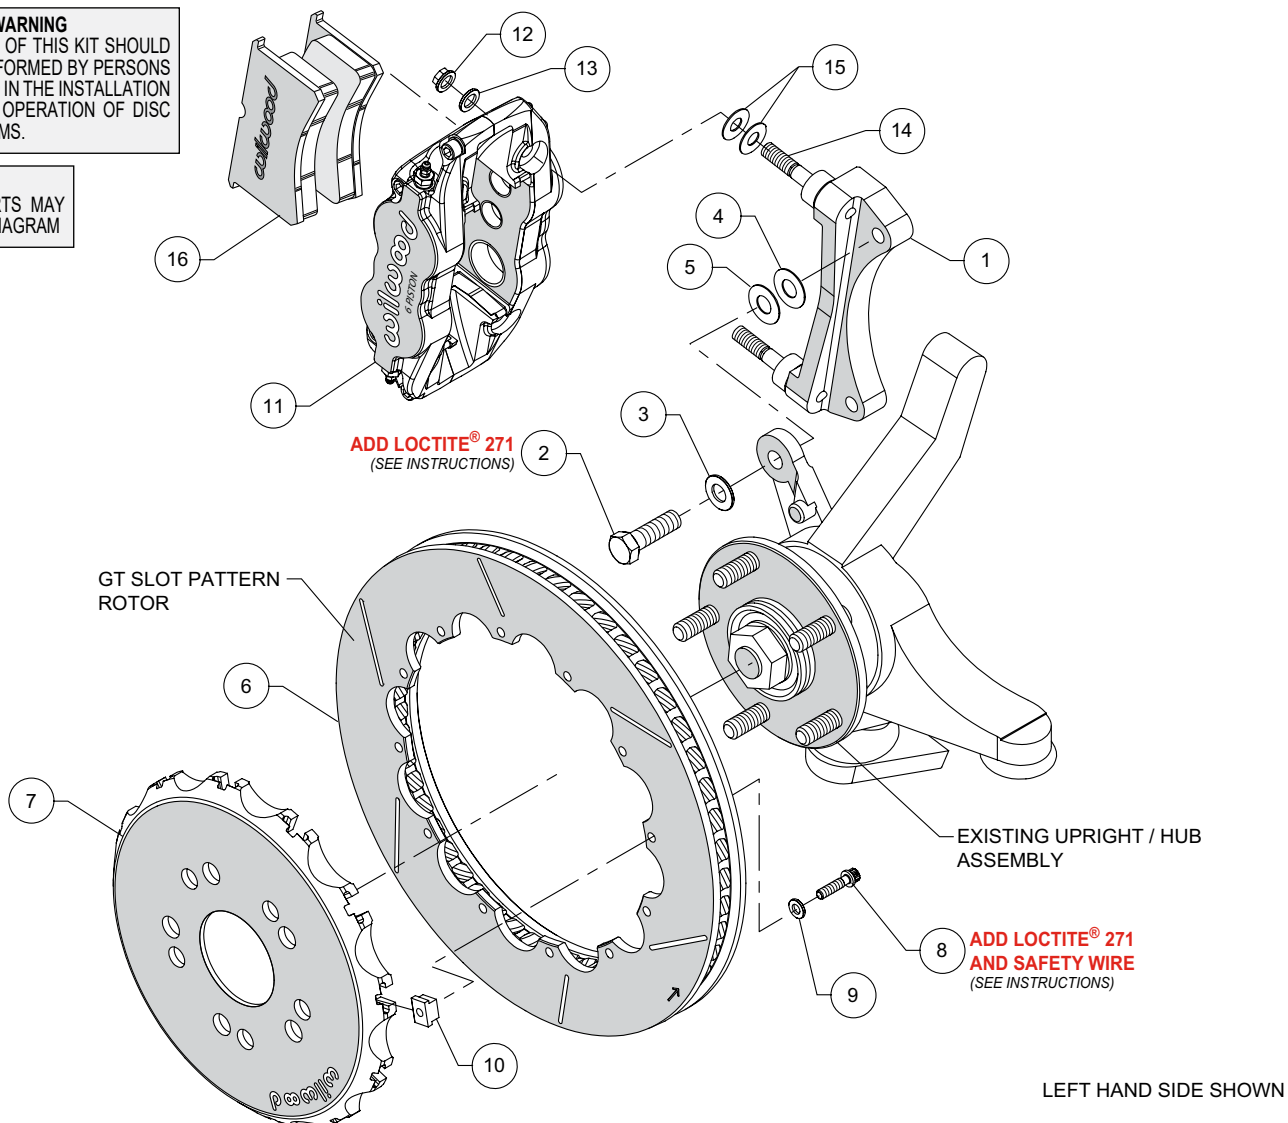
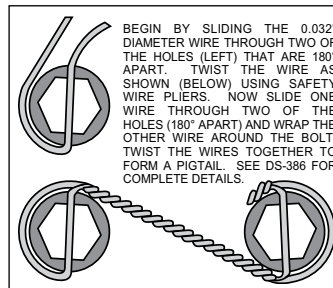

Figure 1. Typical Installation Configuration
Figure 3. Safety Wire Diagram
**NOTE:** Numbers in parenthesis refer to the parts list and Figure 1 on the preceding pages.
- The caliper mount bracket (1) should initially be installed with clean, dry threads on the mounting bolts. Orient the bracket as shown in Figure 1 and Photo 1, and install using mounting bolts (2) and washers (3). Initially place one each .033" thick shim (4), and .015" thick shim (5) on each bolt between the bracket and upright, Figure 1. Temporarily tighten the mounting bolts. **NOTE:** The bracket must fit squarely against the mount bosses on the upright. Inspect for interference from casting irregularities, machining ridges, burrs, etc. Later, after the caliper alignment has been checked, the mount bolts will be secured using red *Loctite*® 271.
- Orient the rotor (6) and the hat (7) as shown in Figure 1 and Photo 2. Attach rotor to hat using bolts (8), washers (9) and t-nuts (10). Apply red *Loctite*® 271 to the bolt threads and torque to 120 **in-lb** using a criss-cross pattern. Safety wire bolts using standard 0.032 inch diameter stainless steel safety wire as shown in Figure 3. Please refer to Wilwood's data sheet DS-386 (available at [www.wilwood.com/Pdf/DataSheets/ds386.pdf](http://www.wilwood.com/Pdf/DataSheets/ds386.pdf)) for complete safety wire installation instructions.
- NOTE:** This kit contains distinct right and left hand calipers that must be mounted in a specific direction, as described below. Initially place two .035" thick shims (15) on each stud (14) as shown in Figure 1 and Photo 3. Mount the caliper (11) onto the bracket (1) using lock nuts (12) and washers (13), Figure 1 and Photo 4. Ensure that the caliper is mounted so that the largest pistons are at the rotor exit end of the caliper, in relation to the direction of rotor rotation. Temporarily tighten the lock nuts and view the rotor through the top opening of the caliper. The rotor should be centered in the caliper, Photo 5. If not, adjust by adding or subtracting shims (4 and/or 5) between the bracket and the upright. Always use the same amount of shims on each of the two mounting bolts. Once the caliper alignment is correct, remove the bracket mounting bolts one at a time, apply red *Loctite*® 271 to the threads, and torque to 60 ft-lb.